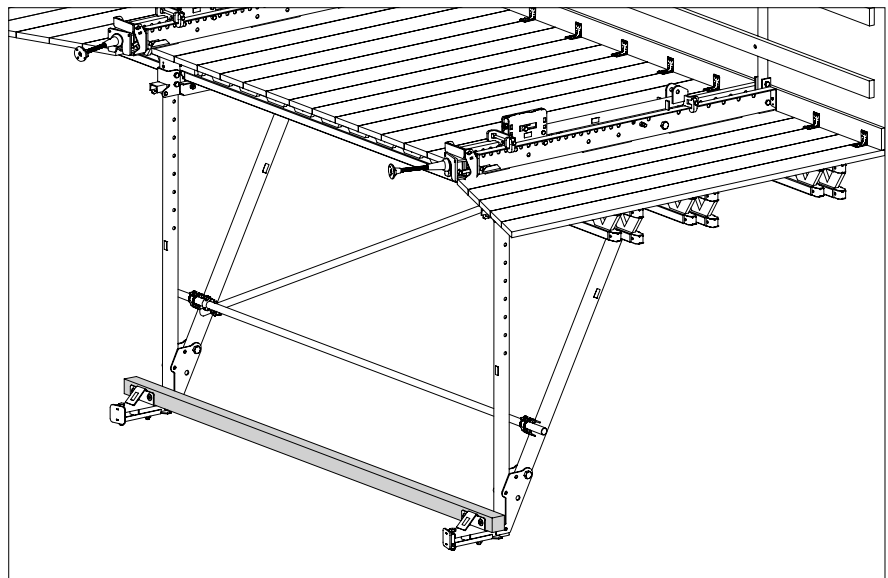

Fig. C1.04
3. Secure timber 10/10 with bolts M12 x 140, washers A12 and nuts M12 which have been provided with the swivel-mounted pressure point. (Fig. C1.04 – C1.04b)